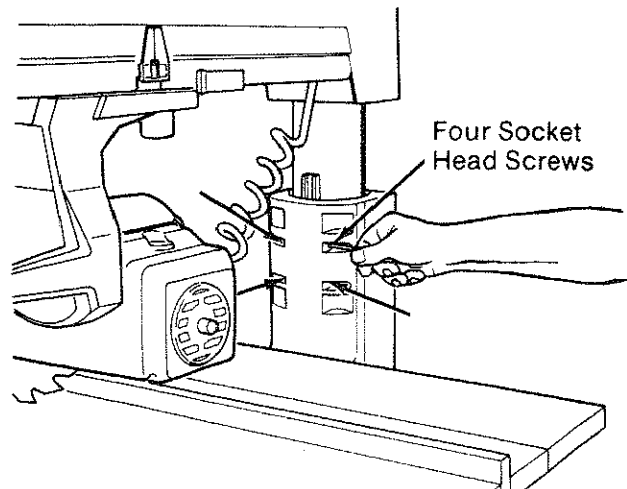

Fig. 35
1. Use a  $1/8$ " hex "L" wrench to loosen the four screws in the front of the *column support*. (Figure 35)